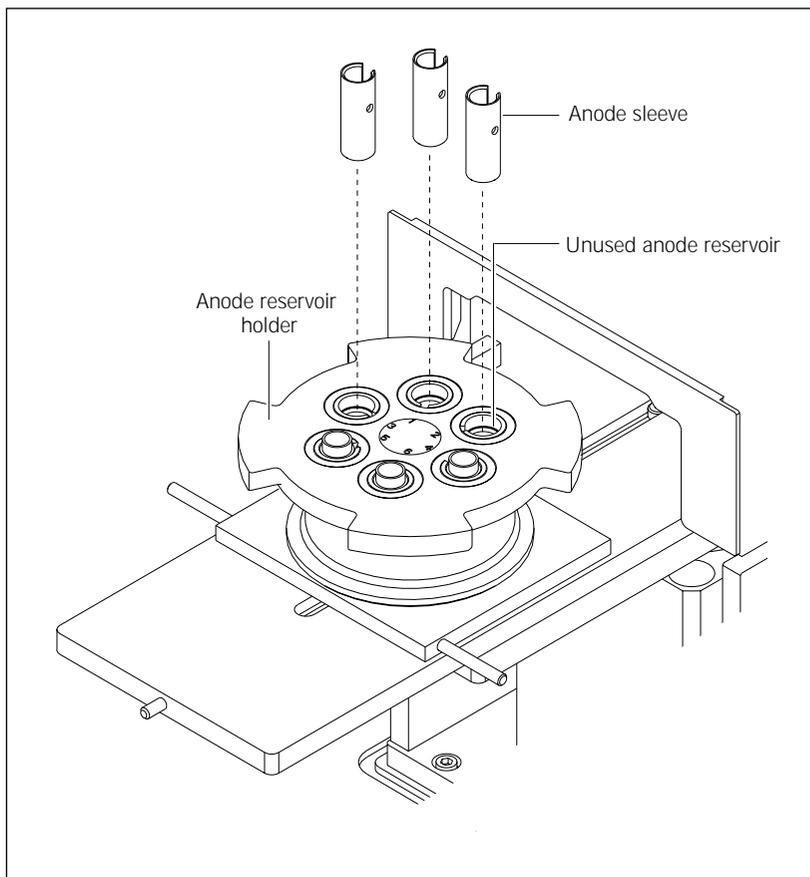

Figure 4-11. Removing or installing an anode sleeve (MegaBACE 500 and flexible MegaBACE 1000 instruments only).
2. At the anode reservoir holder (figure 4-11), locate the reservoir containing the anode sleeve you want to remove.
3. Grasp the anode sleeve and pull it up and out of the reservoir (figure 4-11).
2. At the anode reservoir holder (figure 4-11), locate the empty reservoir where you want to install the anode sleeve.